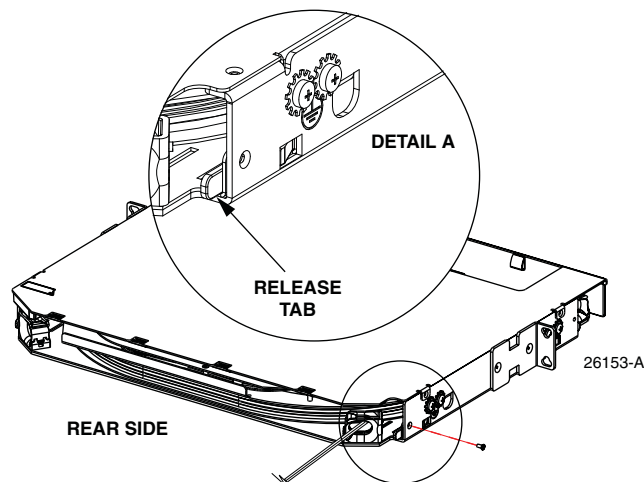

Figure 22. Pressing In Release Tabs To Withdraw Spool Tray
- b. While pressing in on release tabs (shown in Figure 22) on both side of the panel (on the rear side), pull the spool tray out from the rear of the panel.